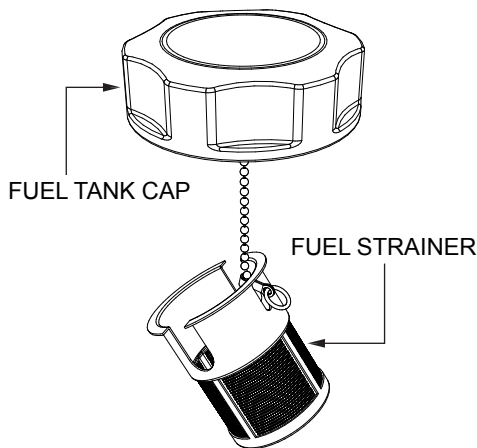

Figure 32. Fuel Strainer
3. Next, remove, inspect and clean the fuel strainer (Figure 32) with solvent.